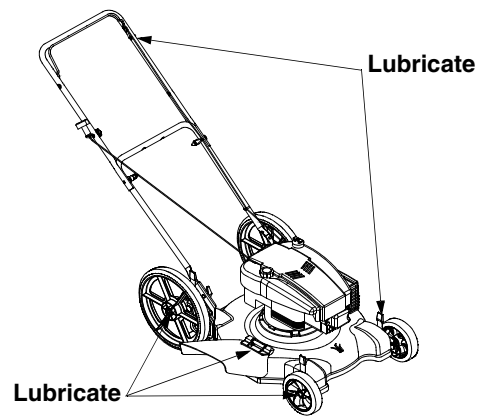

Figure 13
- Lubricate the pivot points on the blade control handle at least once a season with light oil. The blade control must operate freely in both directions. See Figure 13.
- Lubricate the torsion spring and pivot point periodically with light oil to prevent rust. See Figure 13.